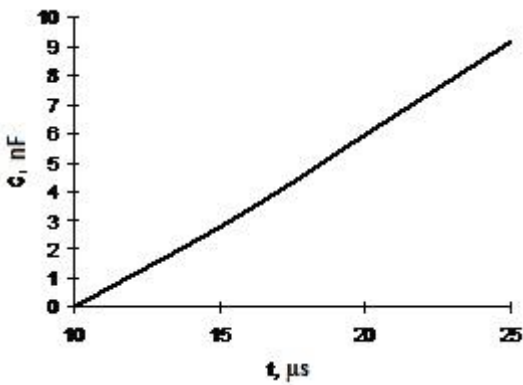

Figure 7 – Graph of smooth emergency turn-off dependence versus capacity nominal  $C_s$
**CS H1, CS H2, CS L1, CS L2** – adjustment capacitors of smooth emergency turn-off duration in emergency mode of relevant controlled transistor. Initially (tuning presets at supply) installed capacitors are relevant to smooth turn-off duration of 10  $\mu\text{s}$ . Duration delay dependence of smooth emergency turn-off from capacitors nominal is shown on Figure 7.